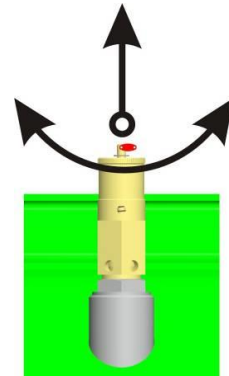

Fig. 18
18.6. Check safety valve operation (Fig. 18)